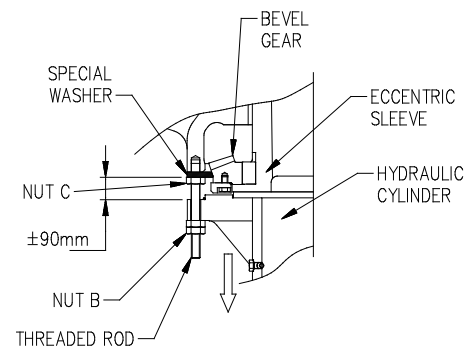

Fig. 6.8.2
5. Evenly loosen nuts (B) at five places. Until the distance between bottom frame and cylinder is 80 to 100mm. Temporarily remove and replace the long studs in sequence, fixing the special washer with nut (C) to each stud as shown. (This is to prevent the eccentric bush assembly from moving out). (Fig. 6.8.2)